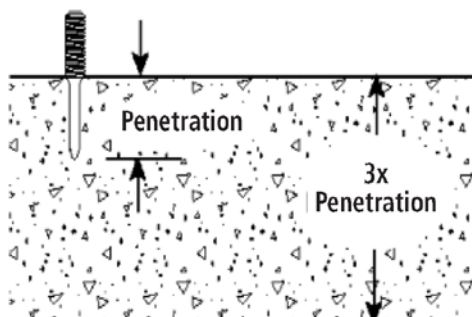

Fig. 5
3. It is important that the concrete/masonry be at least three times as thick as the fastener penetration. If concrete/masonry is too thin, the compressive forces forming at the point of the fastener may cause a portion of the concrete/masonry to break away (See Fig. 5 below). As a result, the fastener may not hold and there is a danger that pieces or chunks of the concrete/masonry will fly off.